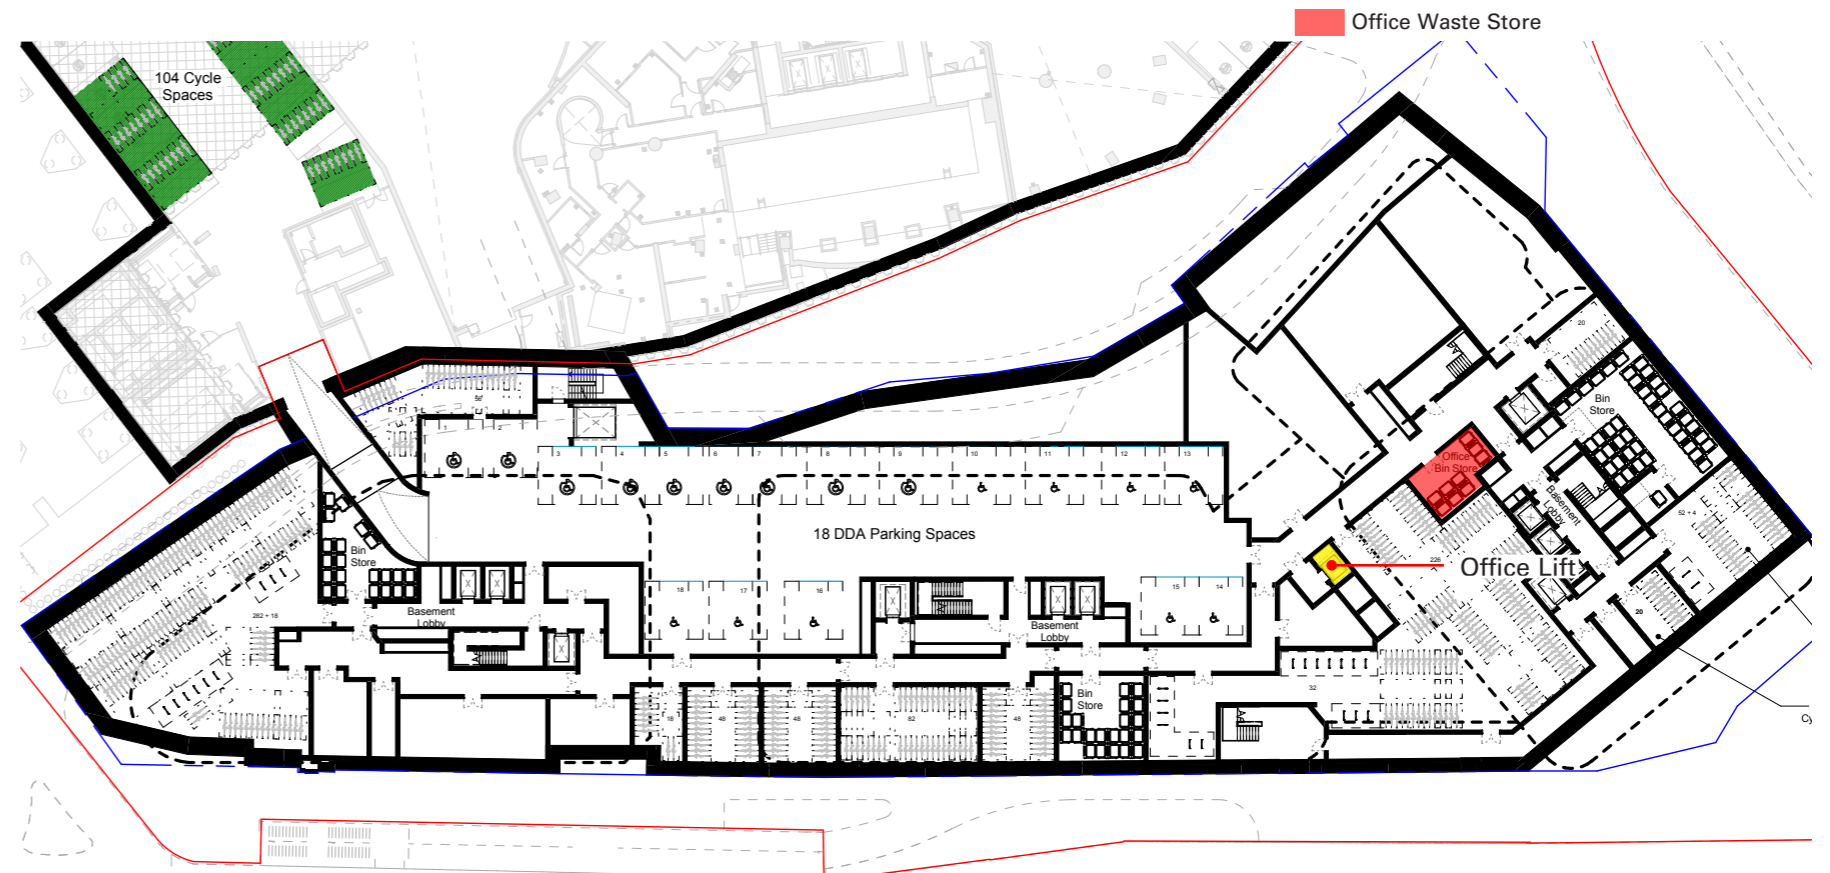

Figure 5.6 - Basement Plan_ Office Waste Store Location
5.3.2 It is proposed that waste storage areas for the office space will be provided at basement level (refer to Figure 5.6) in proximity of the office core. This waste storage area will house all office refuse, recyclable and food waste generated from each space will be stored prior to collection.